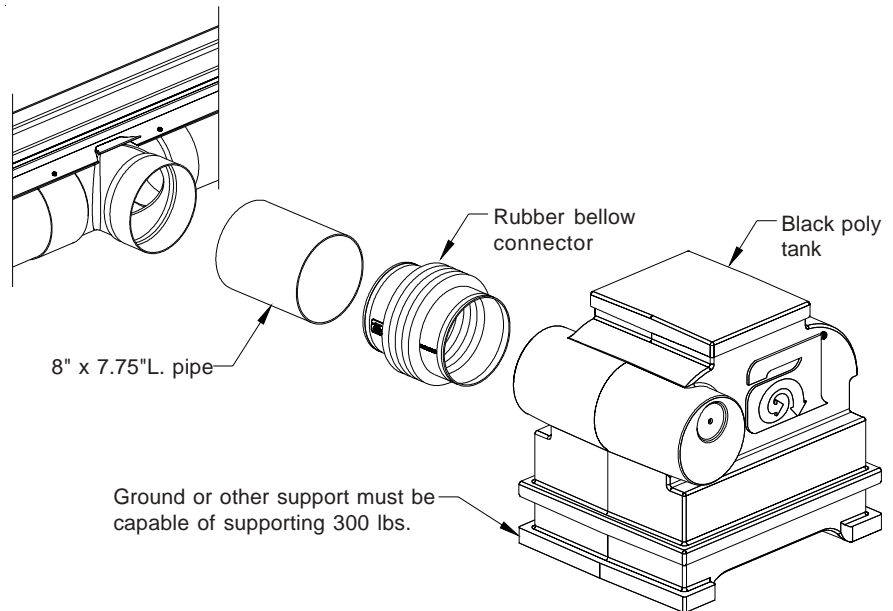

Figure 9B
- 12b) Slide the rubber bellow connector over the 8" pipe and the other end over the black poly tank. Be sure the drip collector remains on top of the 8" pipe. Secure in place with hose clamps positioned in the grooves of the rubber bellow connector. Install the 8" rubber cap on the 8" pipe end opposite the tank. **See Figures 9B through 9D.**